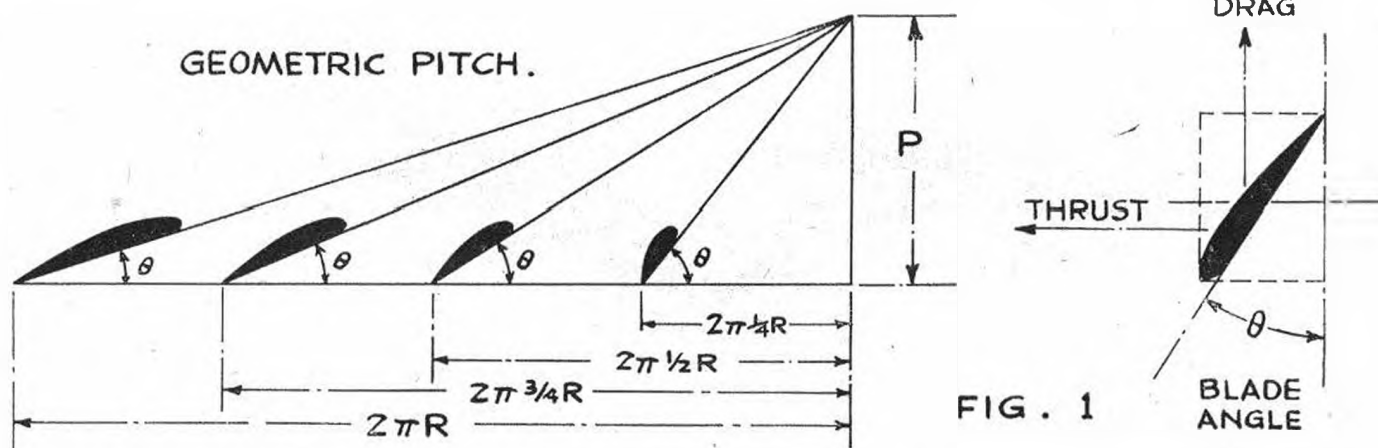

FIG. 1
Now, as shown in Fig. 1, if P equals the pitch, the blade incidence or angle of attack  $\theta$ , at any point along the blade, will be represented by a projection from P, shown as a vertical height of the pitch, to a distance along the base equal to the circumference of the circle travelled by that point in rotational movement.
We can then consider our airscrew blade as being composed of a series of small strips of airfoil section, each moving at an increased rotational velocity as they get nearer to the tip. If all these individual strips of the blade were set at the no-lift angle of the airfoil section used we can see, from our previous discussions of airfoils as applied to wings, that there would be no reaction or lift, but if each strip is given an angle of incidence to the rotational movement of the airscrew we will get an immediate reaction at each point on the blade resolved into its two component parts, lift or thrust (T) and drag or torque (Q) (Figure 1), and our airscrew will "go forward."
Let us first take R.A.F. 32 section, this being, apparently, by far the most popular section nowadays, even outdistancing the Clark "Y," which, a couple of years ago, had such a strong following for its "all round" qualities. R.A.F. 32's performance is shown in Figure 1, represented both graphically and numerically.